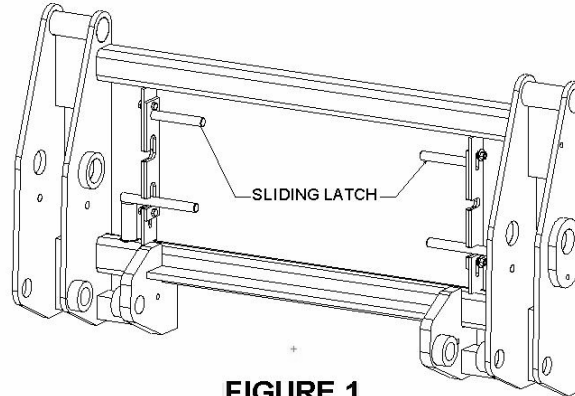

FIGURE 1.
STEP 1 DRIVE THE TRACTOR ONTO FLAT CONCRETE and place the loader in the position shown in Fig 1.
1. Raise sliding latches as shown in Figure 1.
3. Rotate QT pins out of the upper notches, lower, and then rotate them into the lower notches on the sliding latches as shown in Figure 1. **NOTE:** If the QT pins do not easily slide thru the lug on the attachment, do not force them. Simply rotate the attachment back and forth slowly with the bucket cylinders of the loader and the QT pins should fall into place. Periodically grease the QT pins and sliding latches.